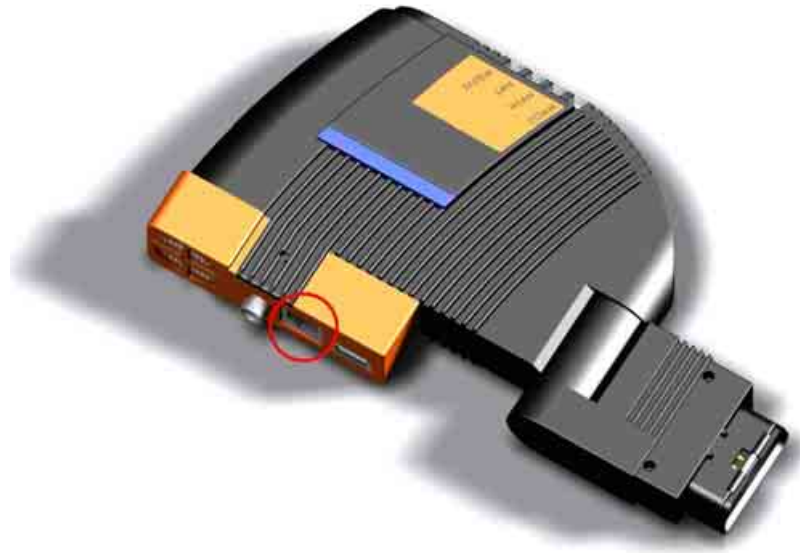

Fig. 70: Connecting the ICOM to the workshop network
- Connect the ICOM to the workshop network via LAN (see Fig. 70).